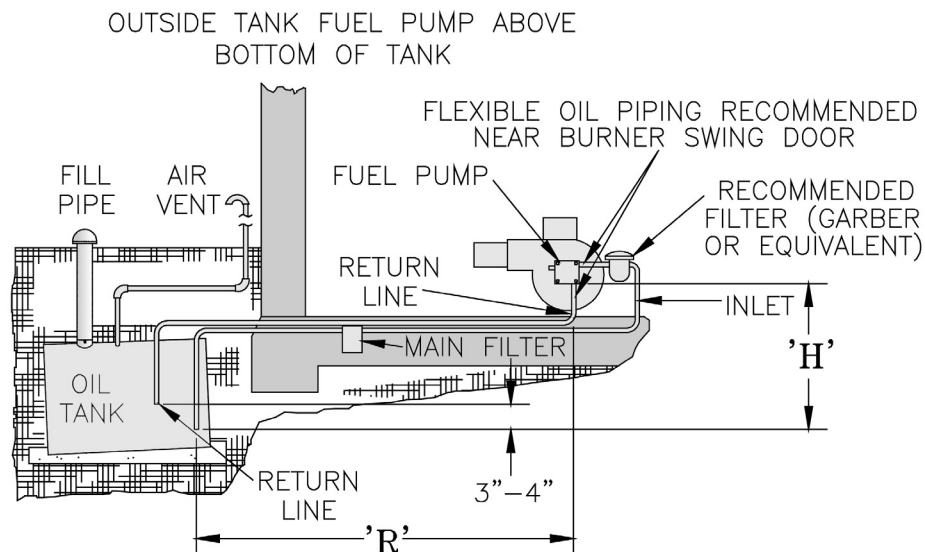

Figure 7-4: Two Pipe Oil Lines
1. For two piped systems, where more lift is required, the two-stage fuel unit is recommended. Table 7-2 (two-stage) and Table 7-3 (single-stage) show allowable lift and lengths of 3/8 inch and 1/2 inch OD tubing for both suction and return lines. Refer to Figure 7-4.
Lift "H"	Maximum Length of Tubing "H" + "R" (See Figure 7-4)